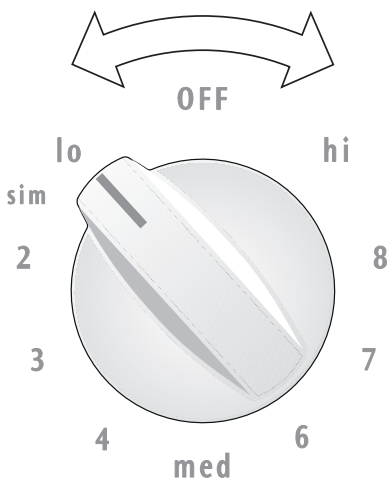

Fig. 1
2. Push in and turn the surface control knob in either direction to the desired setting (See Fig. 1). Start most cooking operations on a higher setting and then turn to a lower setting to finish cooking. The control knobs do not have to be set exactly on a particular setting. Use the settings as a guide and adjust the control knob as needed.